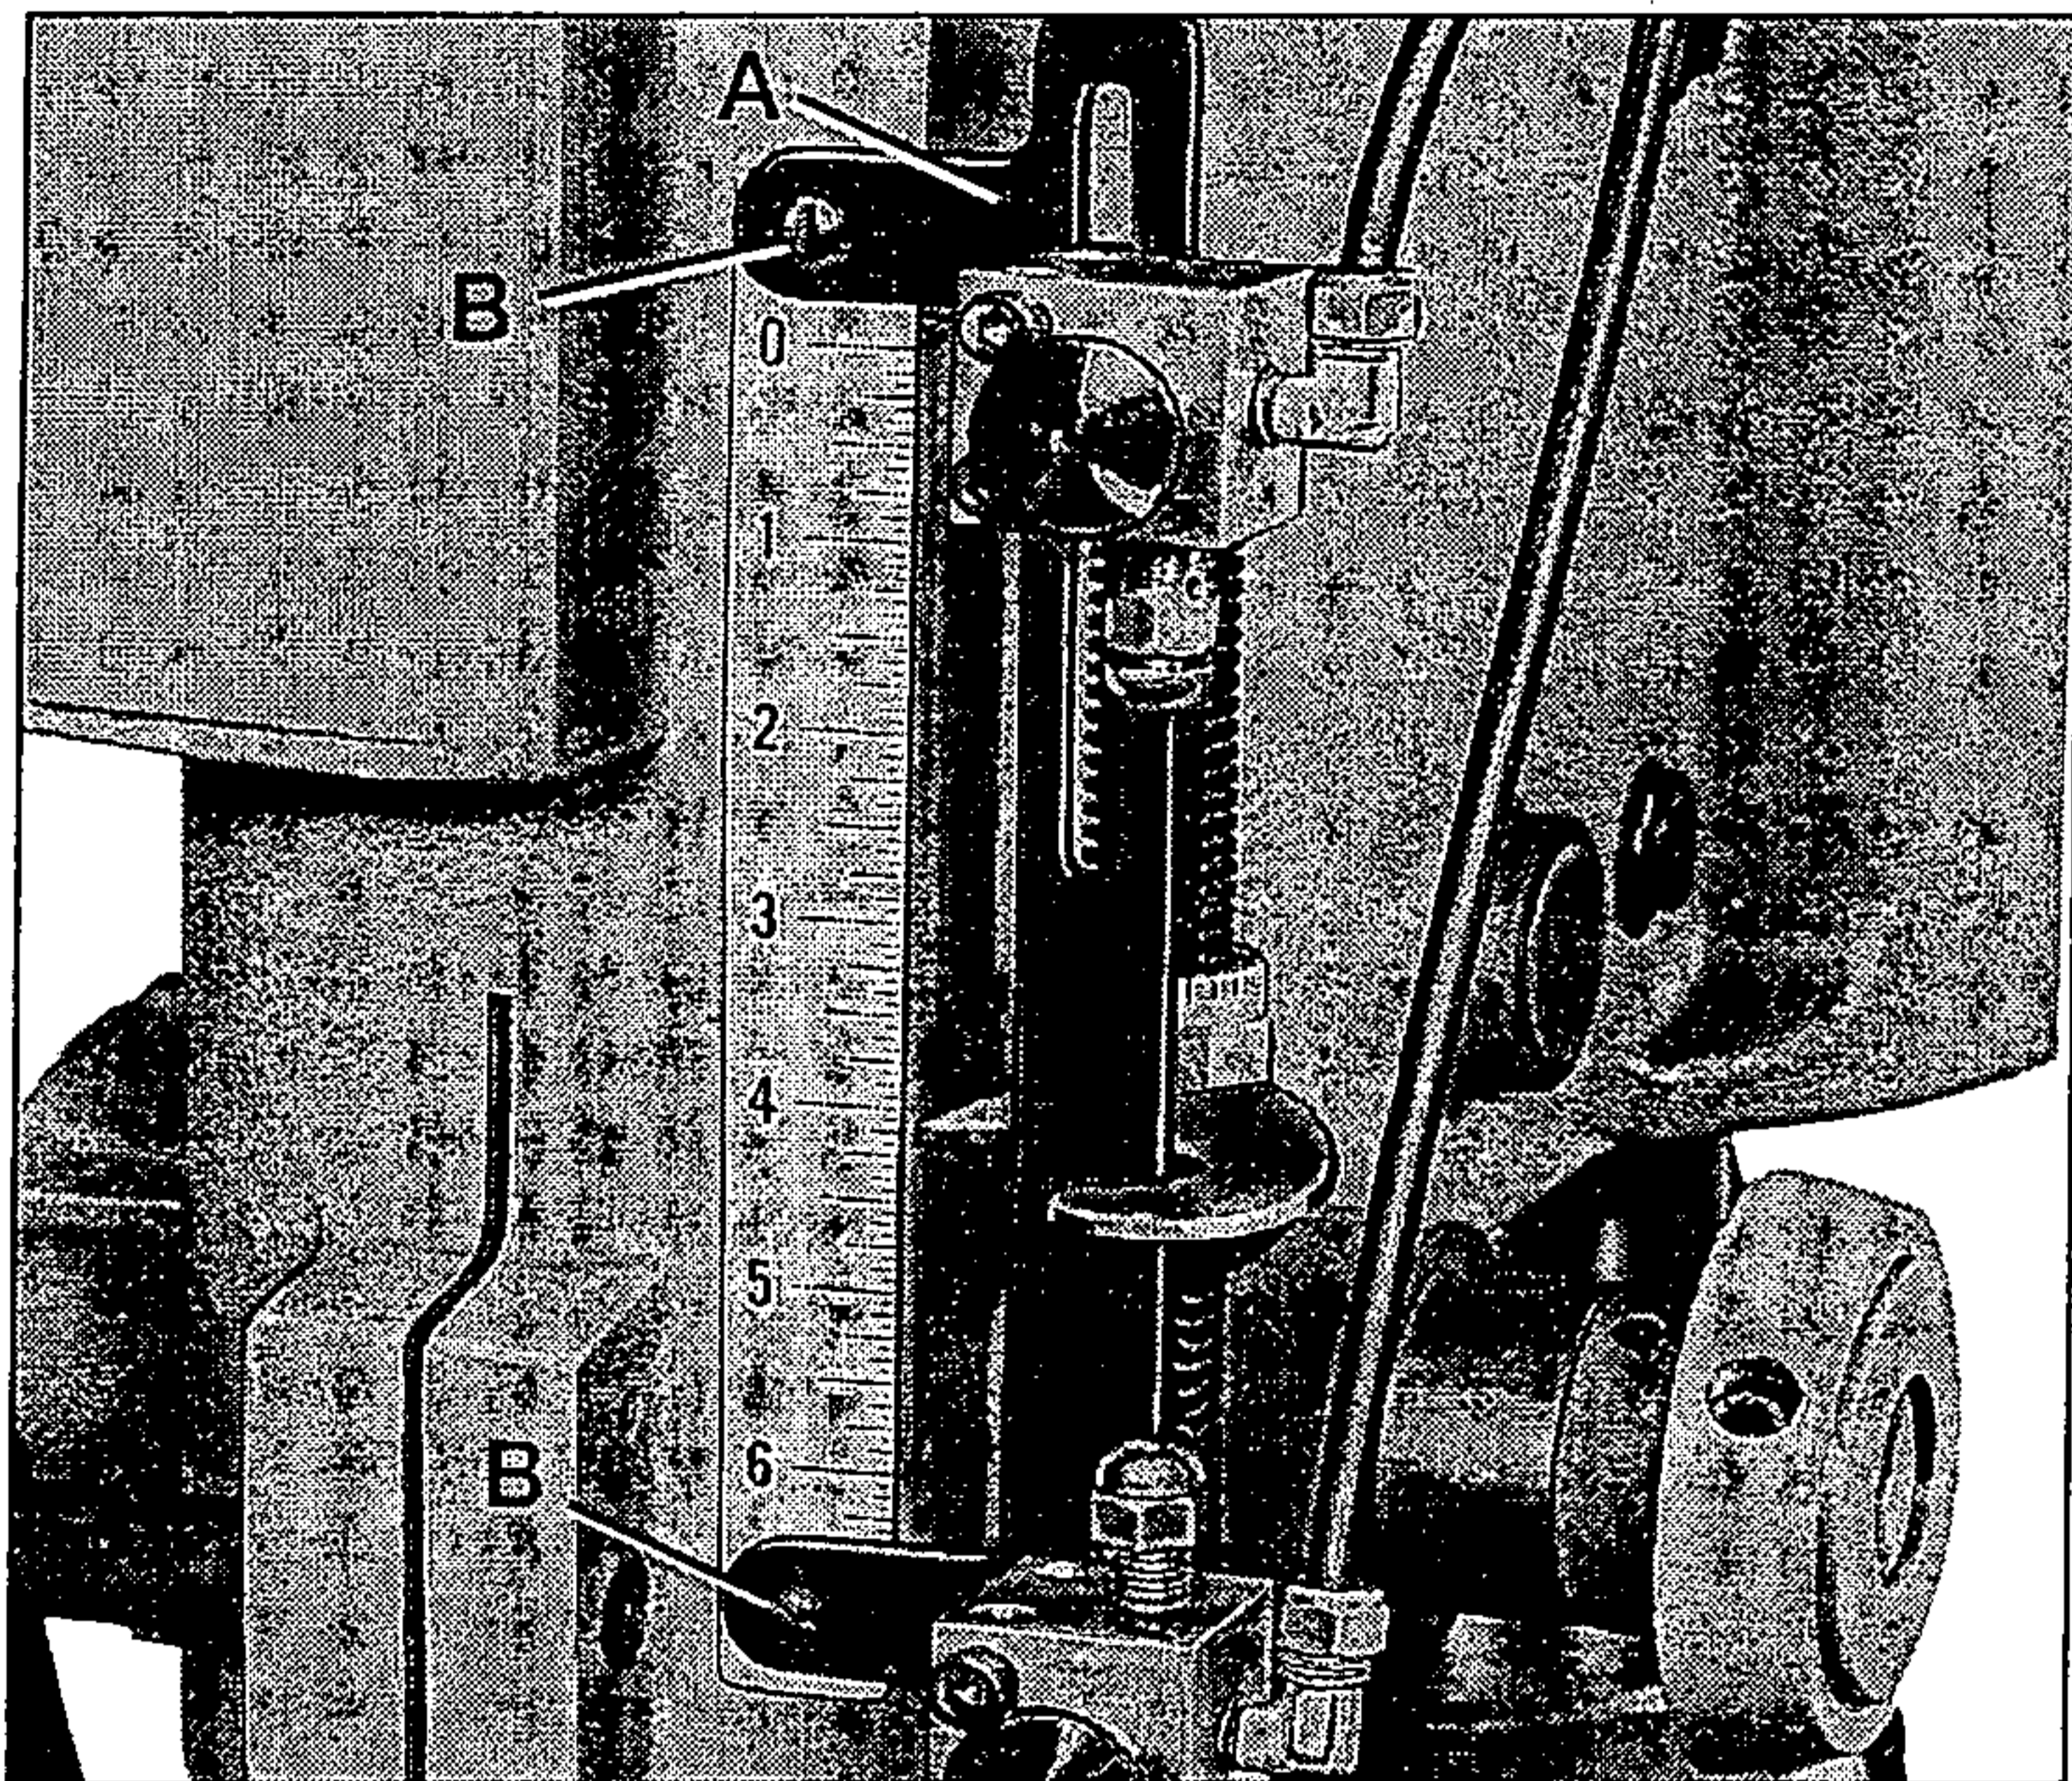

Figure 13
Remove screws from depth scale. Place bracket (A, fig. 13) over scale and install, using longer screws (B) furnished.